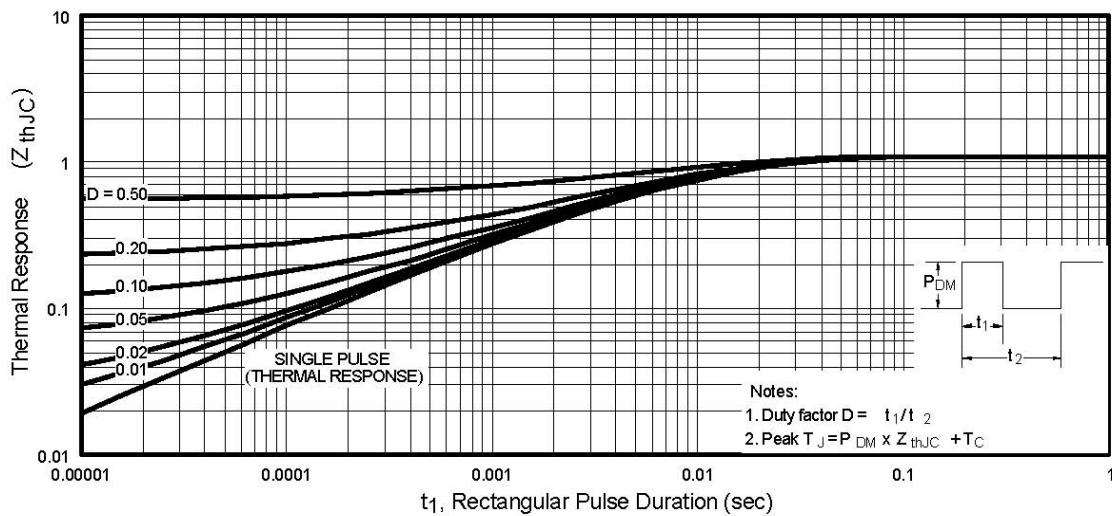

Fig 11. Maximum Effective Transient Thermal Impedance, Junction-to-Case
① Repetitive rating; pulse width limited by max. junction temperature. (See fig. 11)
② $V_{DD} = 25V$, starting $T_J = 25^\circ C$, $L = 530\mu H$